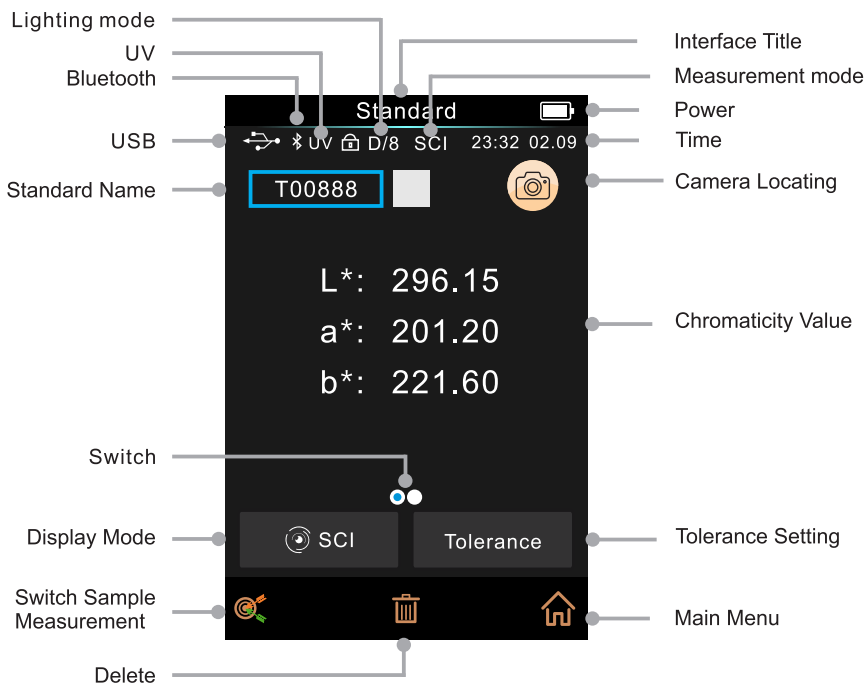
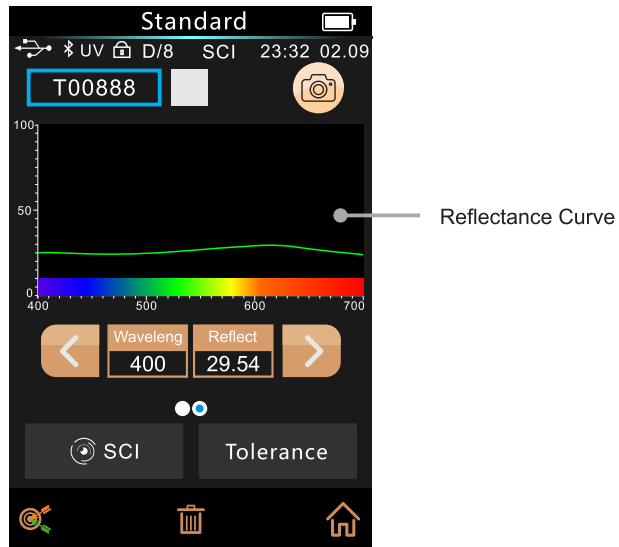

Figure 9 Standard measurement
Figure 10 Reflectance of standard measurement
In the "Standard Measurement" interface, Align the measuring aperture of the instrument to the tested sample and press the "Testing key" tightly. Then there is a "Beep" voice, and the LED indication light will go from flashing to off. After that, a "Beep" voice will come again, and it means measurement finished as shown in Figure 9 and in Figure 10.
- 14) Wavelength switch button: As shown in Figure 10, click  or , the wave length and reflectance of the current sample will switch as range of 10nm interval.